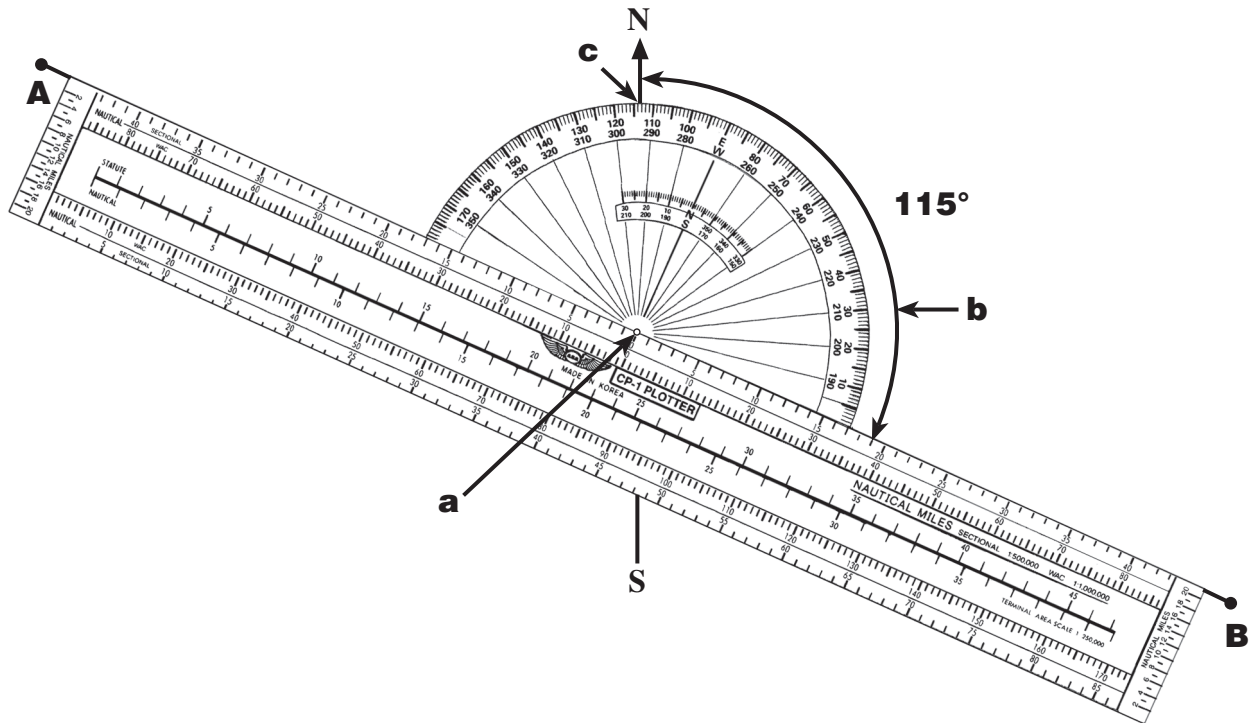

Figure 9-2. Placing the plotter on the course line
A common type of plotter that is used to plot a course is shown in Figure 9-2 on the next page. This plotter is a semi-circular protractor with a straight edge attached to it. The straight edge has distance scales that match various charts and these scales may depict both statute and nautical miles. A small hole at the base of the protractor portion indicates the center of the arc of the angular scale. Two complete scales cover the outer edge of the protractor, and they are graduated in degrees. An inner scale measures the angle from the vertical.
3. The true course is the angle measured between the meridian and the course line. *See Figure 9-2b.* The outer scale is used to read all angles between north through east to south, and the inner scale is used to read all angles between south through west to north. In Figure 9-2 the true course from point (a) to point (b) is 115° as read at point (c).